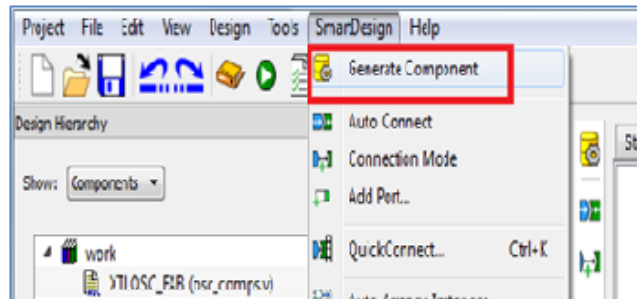

Figure 13 Generating my_hpms_top SmartDesign Block
18. Click **SmartDesign > Generate Component** or select **Generate Component** to generate the my_hpms_top block, as shown in Figure 13.